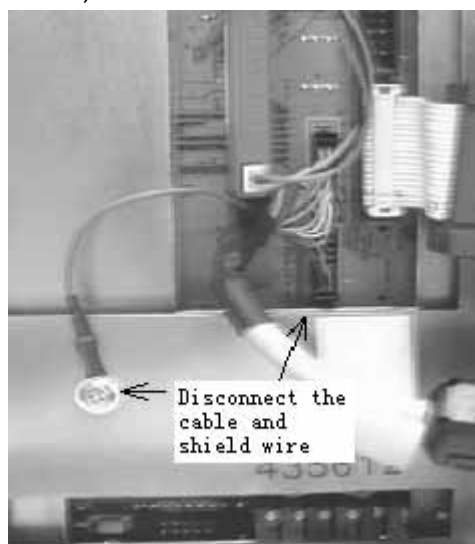

Figure 5-71
2. Disconnect the ground wire and data cable (Figure 5-71)